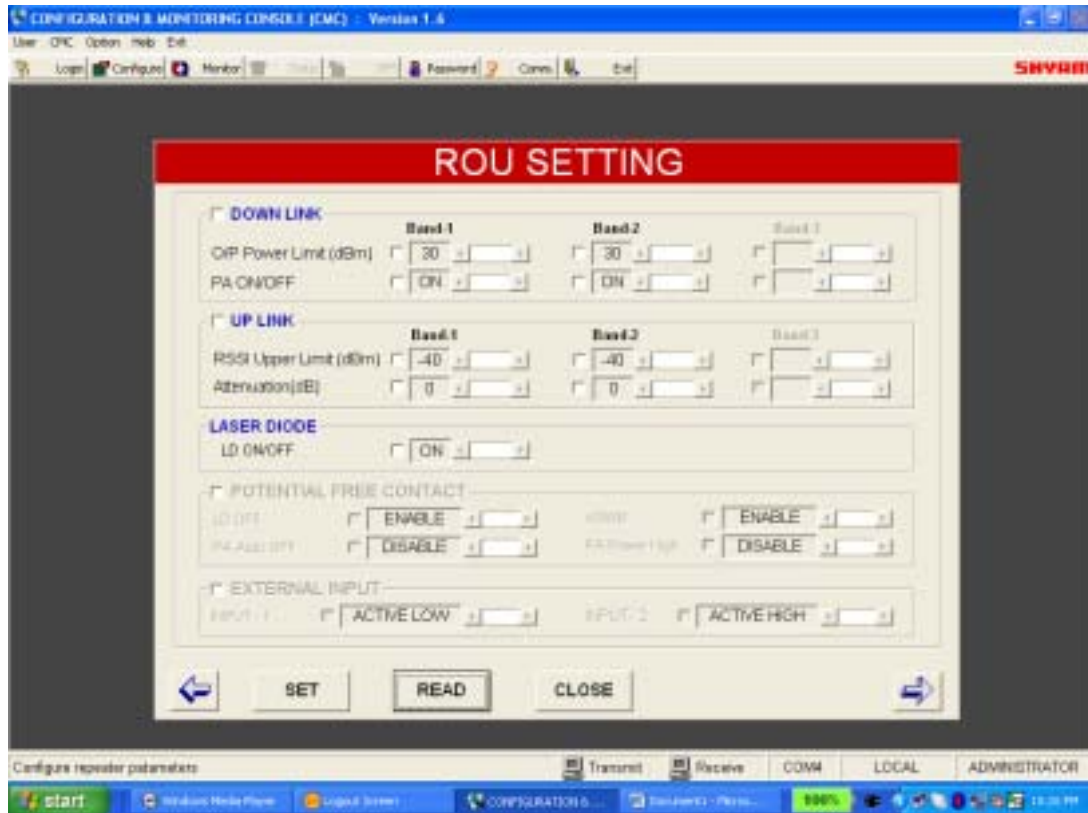

Figure 9: ROU settings
c) MOU-Alarms (Figure 9)
After login, following settings as per **Figure 9** are carried out: